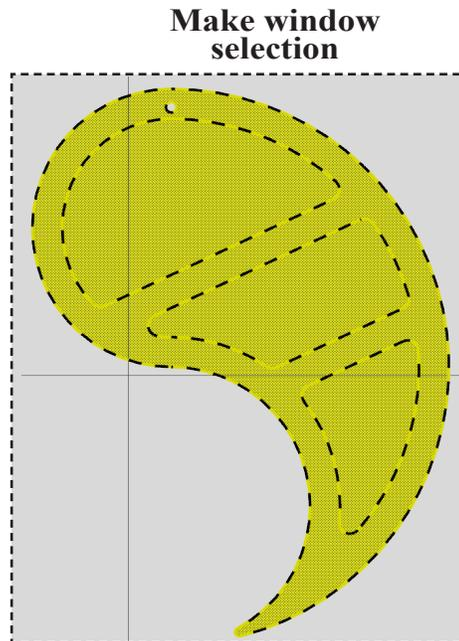

Fig. 51
Step 2. Drag a window selection around all to select all and click **End Selection** (ENTER), Fig. 51.